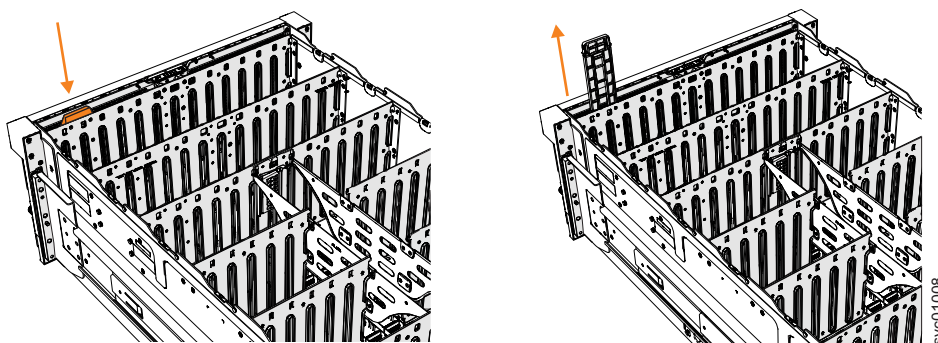

Figure 125. Removing the display panel assembly
3. Press the release tab at the top of the display panel assembly, as shown in Figure 125 on page 131.